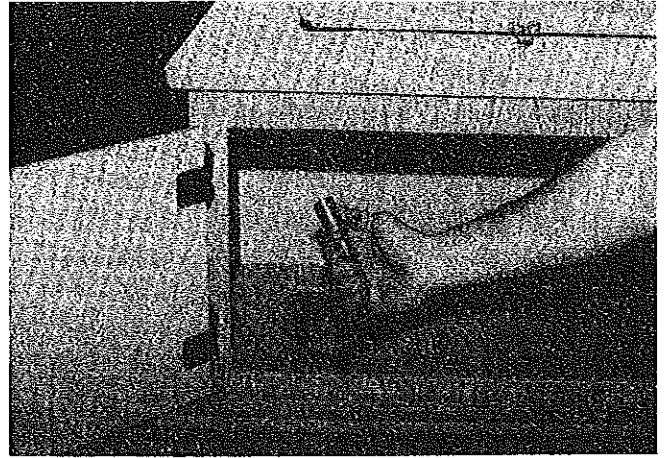

FIGURE 32
31. Locate gas line and route into stove cabinet through opening in hutch cabinet top. See Figure 32.